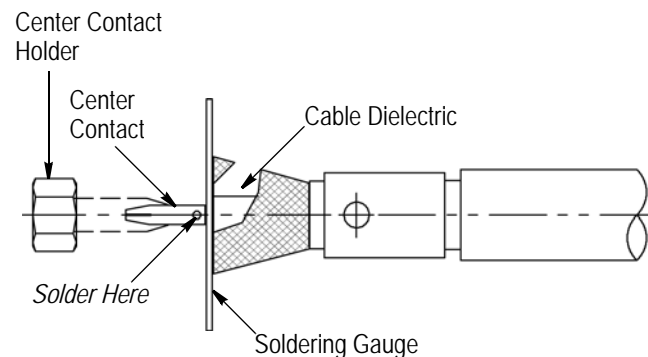

Figure 4
### 3.2. Solder Center Contact to Cable Inner Conductor (Figure 4)
- Added “solder here” to Figure 4